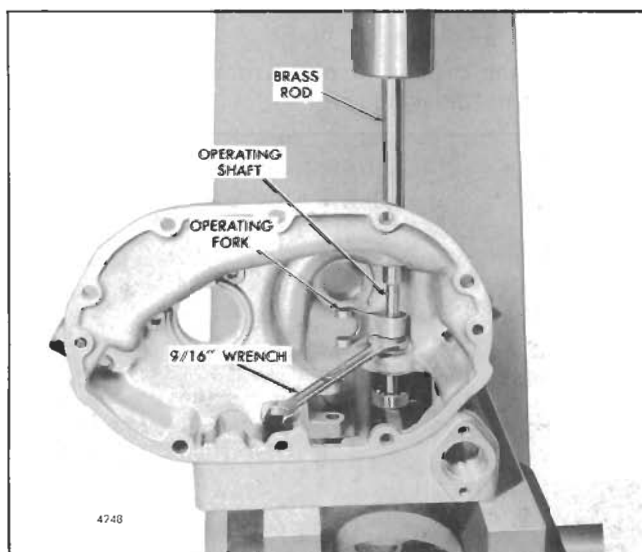

Fig. 12 - Removing Operating Fork Shaft and Lever Assembly from Governor Housing
- g. With the housing still supported on the bed of the press, place a 9/16" open end wrench under the operating fork as shown in Fig. 12. Place a brass rod on the end of the shaft and press the fork off of the operating shaft. Remove the shaft, operating lever and bearing as an assembly from the housing.